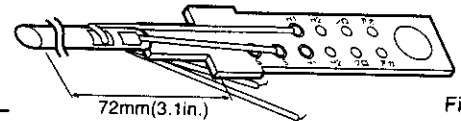

Fig.4
- Adjust the length of the heating element leads as shown in Figure 4. The distance from the shoulder of the printed wiring board to the end of the heating element should not exceed 72 mm (3.1 in.).